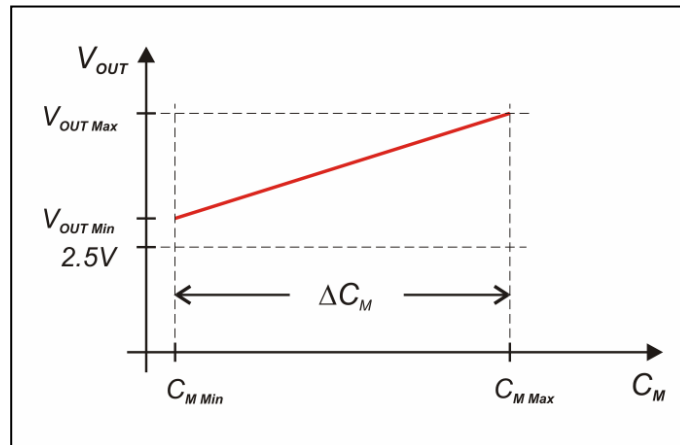

Figure 3: Output signal V_{OUT} as a function of the measurement capacitance C_M
The output voltage given by equation (3) is a linear function of C_M and is illustrated in *Figure 3*. A minimum measurement capacitance $C_{M,min} \neq 0$ leads to a minimum output voltage $V_{OUT}(C_{M,min}) > V_{REF}$.